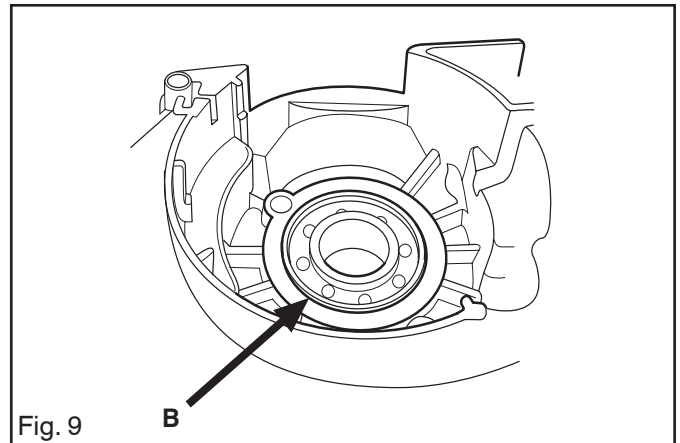

Fig. 9
- B. Use protective gloves and fit the bearing in the crankcase side on the flywheel side. When fitting the bearing in the crankcase half of the clutch side the bearing should be fitted flush with the inside of the crankcase (B). See fig. 9.